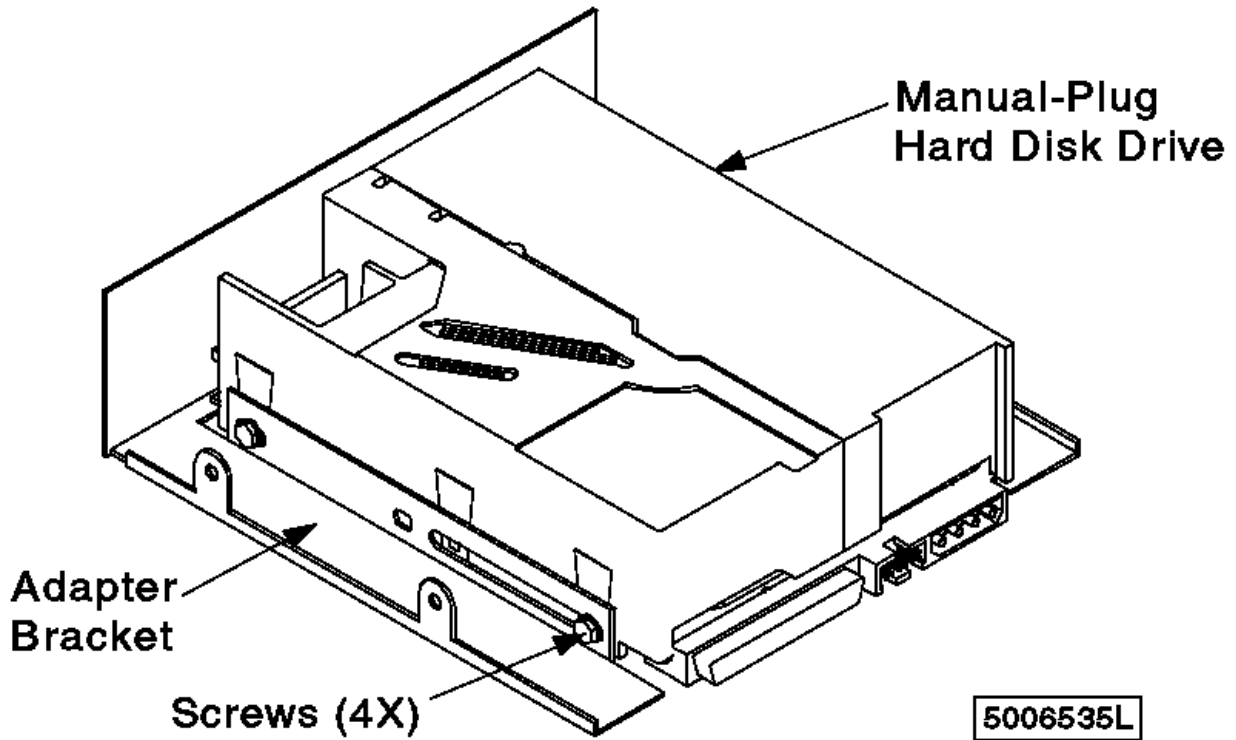

Figure 5-20. Hard Disk Drive Adapter Bracket
- d. Remove the 4 screws on the sides of the adapter bracket that mount the hard disk drive (Figure 5-20) then continue with step 10.